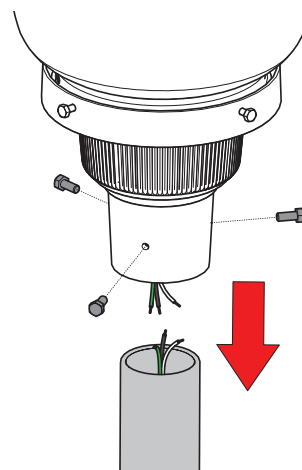

Figure 6
6. Wire the fixture leads to the supply leads per the **Wiring Diagram** and place the fixture on the pole or tenon. Secure with the three (3) hex bolts [Figure 6].